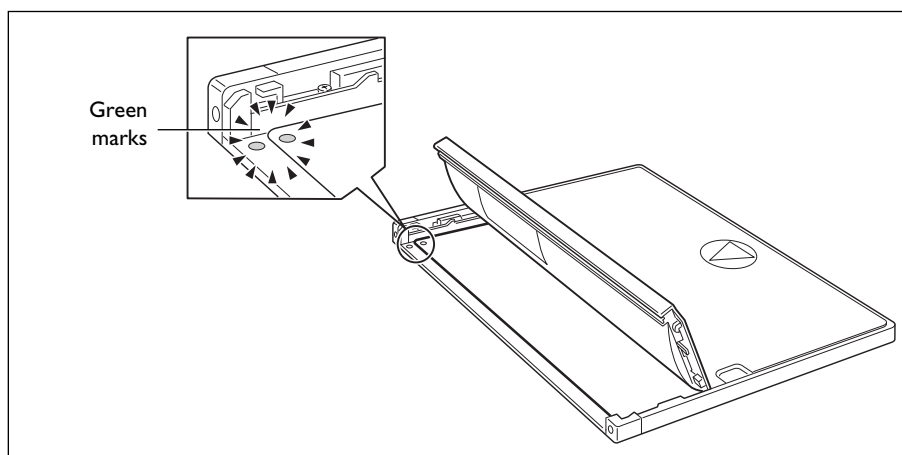

Fig. 4.10 Green marks indicate the correct position
- 3 Afterwards, carefully place the image plate back in the cassette, so that the front of the plate is facing the same direction as the front of the cassette. The green mark on the reverse of the plate reader must be positioned in line with the green mark on the cassette (see Fig. 4.10). Before you close the cassette again, ensure that the image plate does not project out of the cassette.